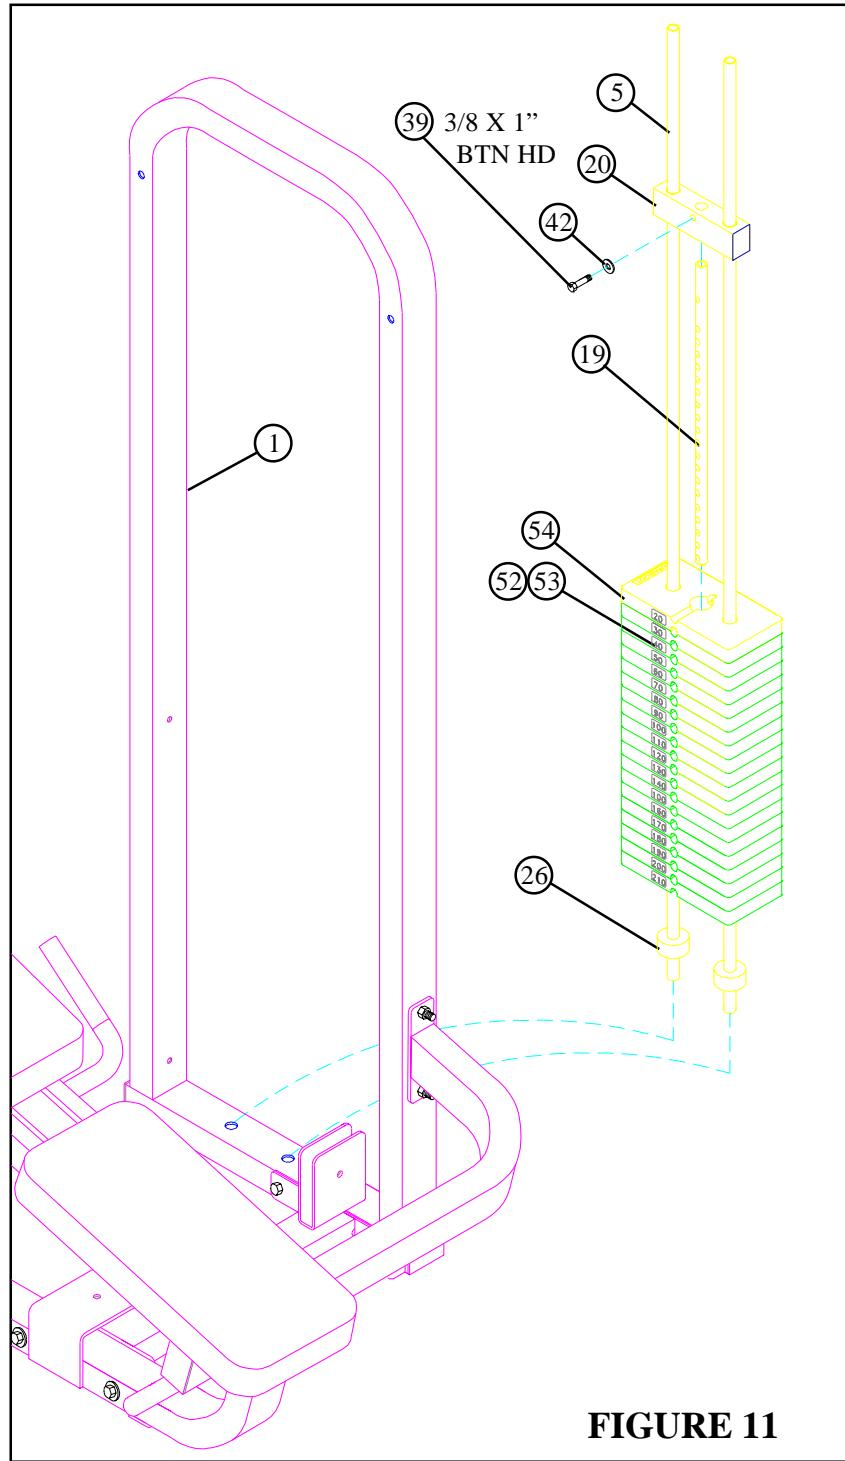

FIGURE 11
- Insert the two GUIDE RODS (5) into the base of the TOWER (1) as shown in FIGURE 11. Lubricate the GUIDE RODS with a silicon or teflon spray that is available at most hardware stores.
- Slide two WEIGHT STACK CUSHIONS (26) down over the GUIDE RODS (5). See FIGURE 11.
- Using **EXTREME CARE** slide twenty WEIGHT PLATES (54) down over the GUIDE RODS (5) with the "PARABODY" side up and the key-hole facing as shown in FIGURE 11.
- **SECURELY** assemble the WEIGHT STACK SHAFT (19) to the HEAD PLATE (20) using one 3/8 X 1" BUTTON HEAD CAP SCREW (39) and one 3/8" LOCK WASHER (42). **(Note: The bolt hole in the HEAD PLATE (39) should be on top.)**
- Carefully Slide the HEAD PLATE ASSEMBLY down over the GUIDE RODS (5) onto the weight stack as shown in FIGURE 11.
- Apply one set of WEIGHT STACK LABELS - LBS. OR KGS. (52) (53) to each WEIGHT PLATE (54) as shown in FIGURE 11.